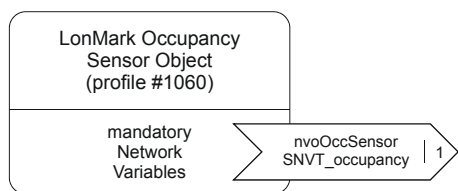

Fig. 7. Occupancy Sensor Object
- 1 occupancy sensor object (#1060) (see Fig. 7)